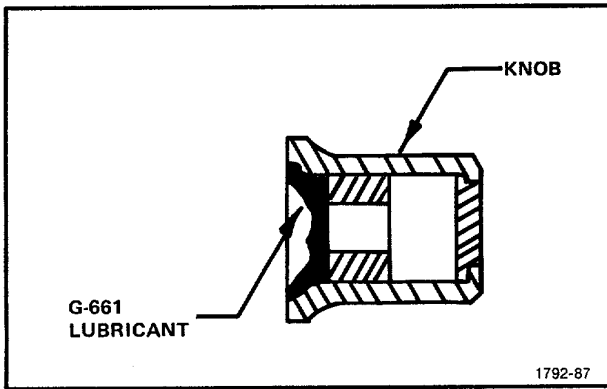

Figure 5-34. Lubrication of FOCUS and INTENSITY control knobs.
**29. Install the FOCUS and INTENSITY knobs (see Fig. 5-34)**
- 1. Apply G-661 lubricant to both knobs as shown in Fig. 5-34.